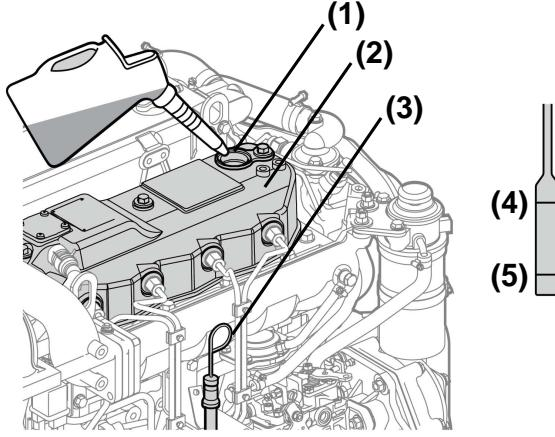

Figure 9
2. Remove dipstick (**Figure 9, (3)**) and wipe with clean cloth.
4. Remove dipstick. The oil level should be between upper (**Figure 9, (4)**) and lower (**Figure 9, (5)**) lines on the dipstick.
1. **NOTICE:** Prevent dirt and debris from contaminating engine oil. Carefully clean the dipstick and the surrounding area before you remove the cap. Remove the yellow oil filler port cap from filler port (**Figure 9, (1)**) and fill with engine oil.
2. Fill with oil to the upper limit (**Figure 9, (4)**) on the dipstick (**Figure 9, (3)**). **NOTICE:** NEVER overfill the engine with engine oil.